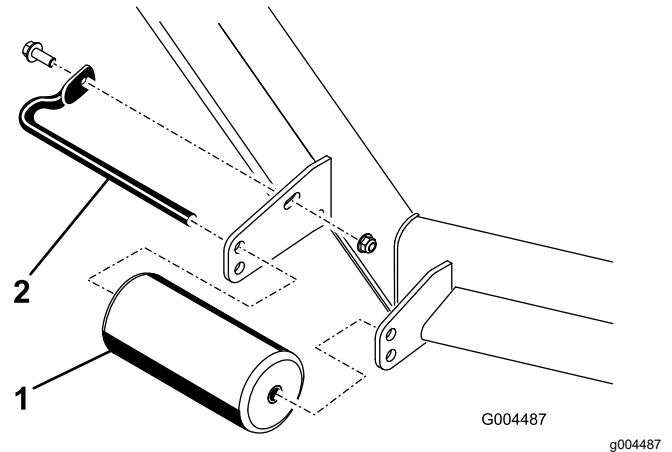

Figure 5
4. Remove the fasteners securing each roller on your mower and move the rollers up or down as desired (Figure 5).